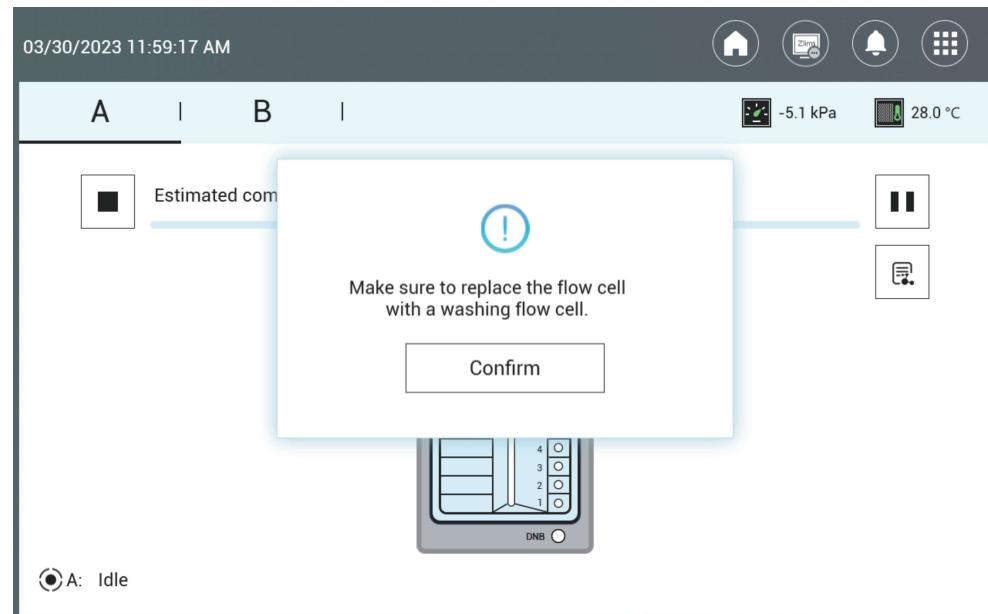

Figure 35 DL-T7RS flow cell loading complete status interface
16. The process takes around two hours. When the screen is shown as *Figure 35 on Page 83*, the flow cell loading is complete.
18. When the loading is complete, install the washing flow cell onto the flow cell stage and press the flow cell attachment button. Close the flow cell compartment door. Select **Confirm** as shown in *Figure 35* on *Page 83*.